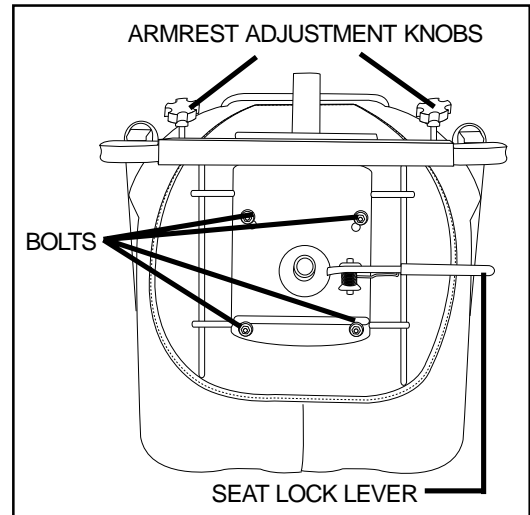

Figure 11. Seat Adjustments
1. Pull up on the seat lock lever to unlock the seat. See figure 11.
1. Loosen the armrest adjustment knobs at the back of the seat frame. See figure 11.
2. Remove the four bolts that fasten the seat to the seat platform. See figure 11.